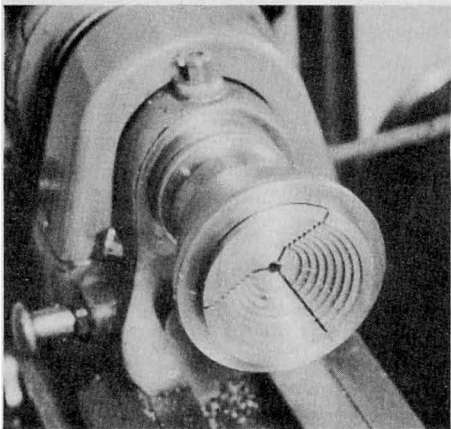

Fig. 115 A 10mm internal step-chuck on a Lorch precision lathe. The largest work held is 40mm diameter.
11.4mm up to 25mm internal work diameter in steps of 0.4mm. A similar set of five chucks has internal steps, covering discs from 5.6mm up to 23.2mm these being closed by the normal internal taper in the mandrel bore. Fig. 115 shows such an internal chuck, with 8 steps, but in this case on the larger Lorch lathe. These take from 6mm up to something over 40mm diameter in 40 steps and are too large to be controlled by tapers on the mandrel nose itself. Closing pieces are used instead, screwed onto the mandrel. (This